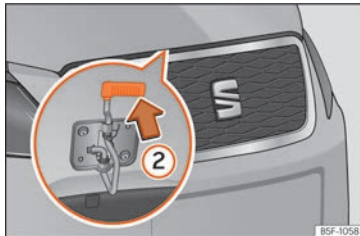

Fig. 315 Cam under the bonnet
- To lift the bonnet, press the release catch under the bonnet upwards »» Fig. 315 ②. The arrester hook under the bonnet is released.